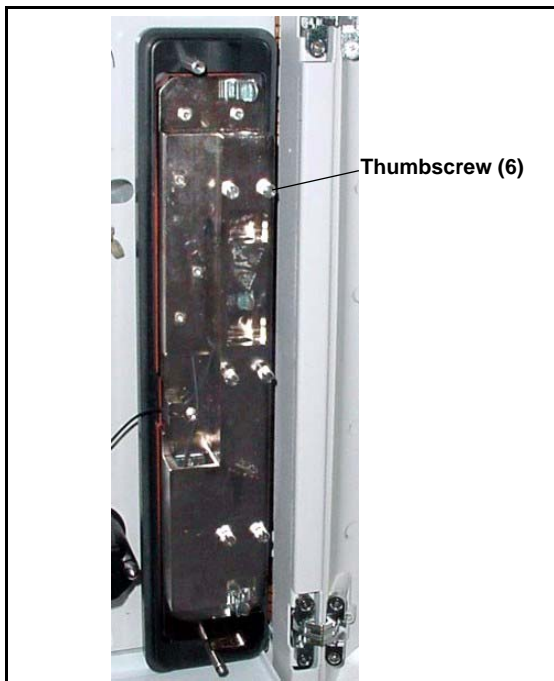

Figure 21. ICS-2000 Column Heater Cover Removed
4. Unscrew the six thumbscrews on the top metal plate (see Figure 21) and remove the plate.